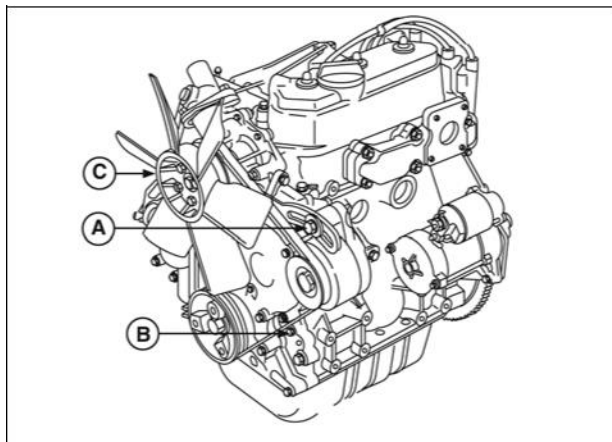

Figure 1
2. Remove the alternator adjusting bracket screw (A, Figure 1), V-belt (B), and fan (C), from the engine.